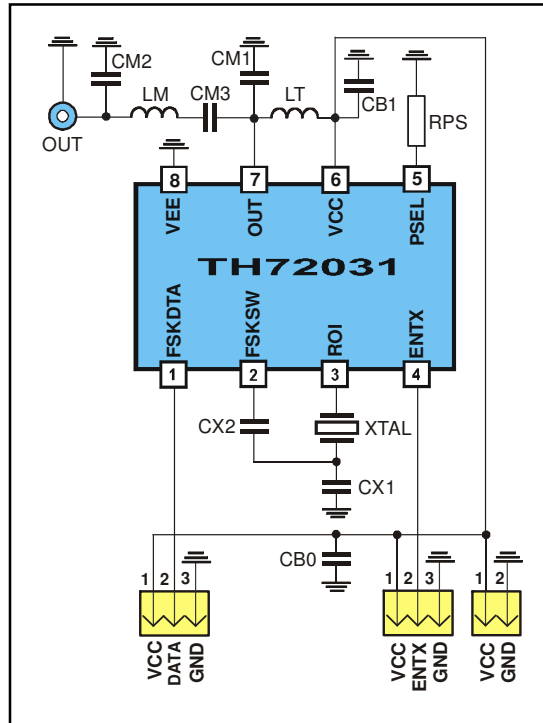

Fig.18: Test circuit for FSK with 50  $\Omega$  matching network
- Data according to test circuit in Fig. 18 (868.3MHz)
### 6.1 Test circuit component list to Fig. 18